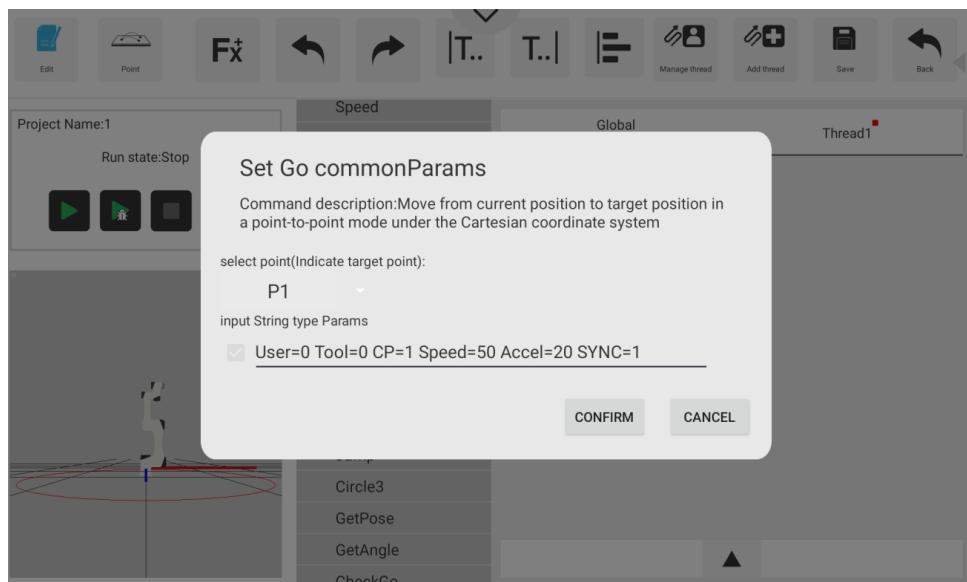

Figure 1.48 Edit program
**Step 4** Click **Edit** to edit program, click to select **Move>Go**, add two Go commands and select Point P1 and P2 in the two **Go** commands respectively, as shown in Figure 1.48.